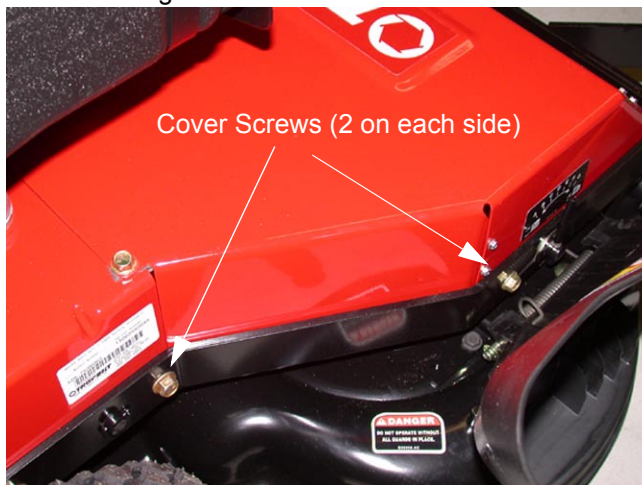

Figure 6
- 1.2. Using a ½ inch socket remove the four screws securing the belt cover and removed the cover. See Figure 6.